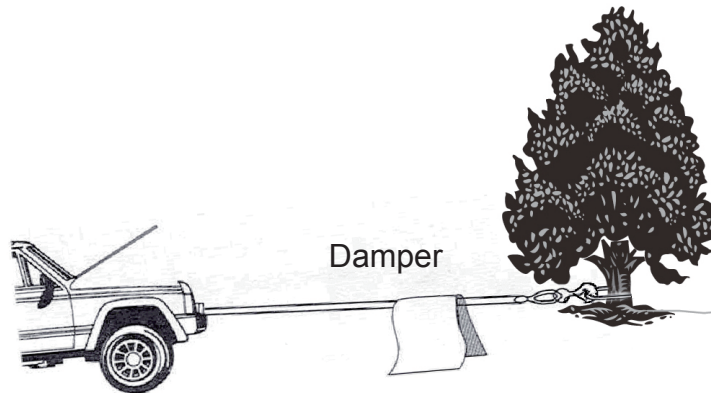

Fig.1
- 13) It is recommended to lay a heavy blanket or jacket over the rope about halfway along to hook attachment. If a rope failure should occur, the weight of the blanket or jacket will act as a damper and help preventing the broken rope from whipping(see Fig.1).